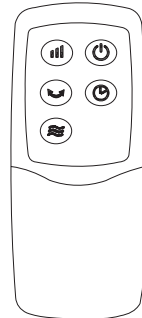

Fig.4
**I. Remote Controller (Fig.4)**